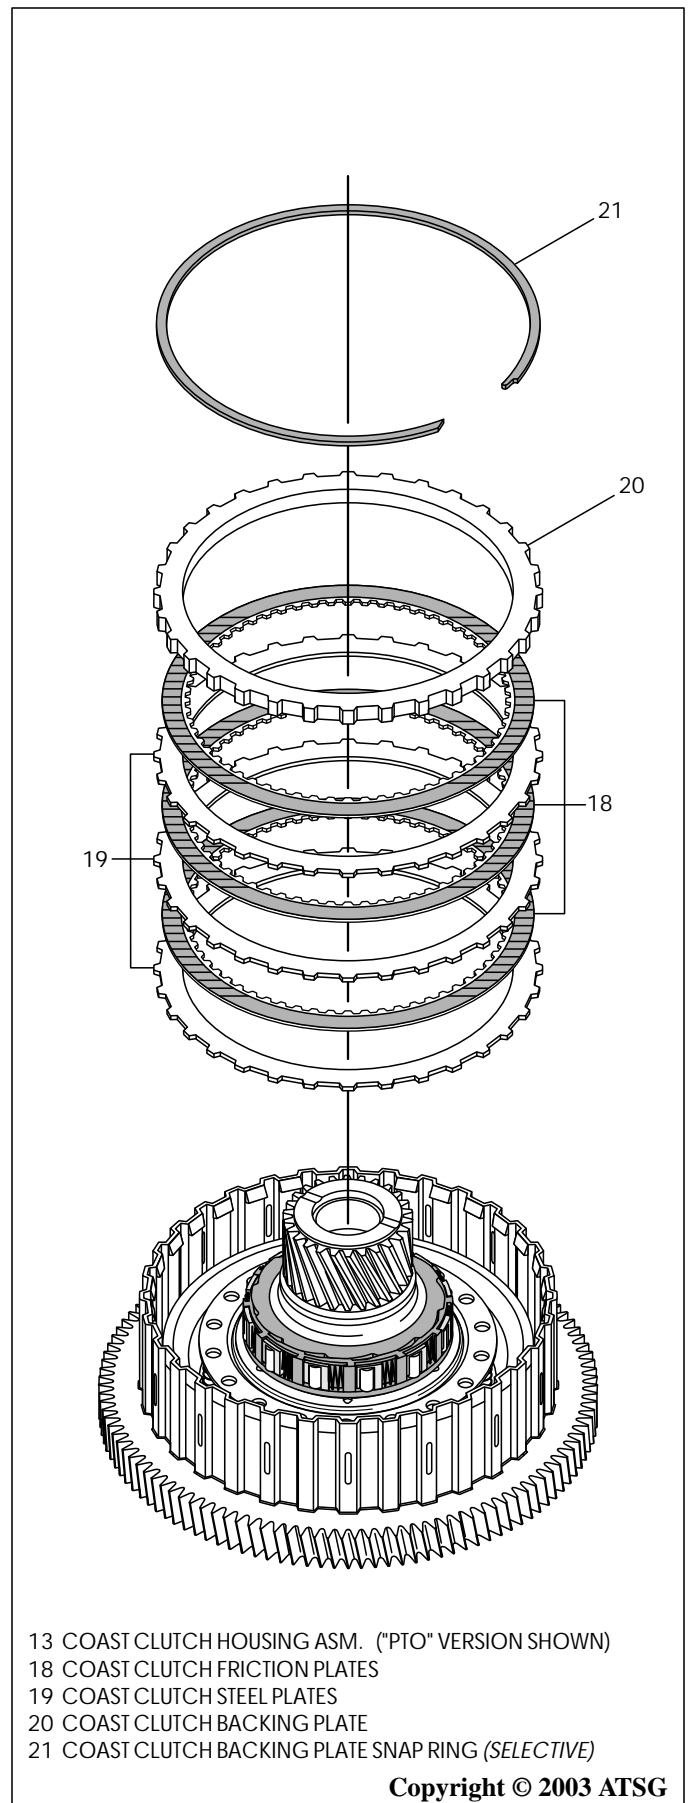

Figure 154
12. Install the coast clutch plates in coast clutch housing, as shown in Figure 154, beginning with a steel plate and alternating with friction plates, until you have proper amount installed.
13. Install the coast clutch backing plate, as shown in Figure 154.
14. Install the *selective* coast clutch backing plate snap ring, as shown in Figure 154, and ensure that it is fully seated.